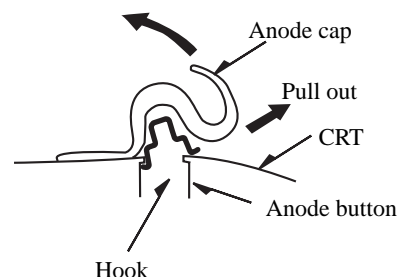

Fig. 4
- (6) Turn over the anode cap on the side where the hook was released and pull out the cap in the direction opposite to that on which the cap was pushed. (See Figure 4)